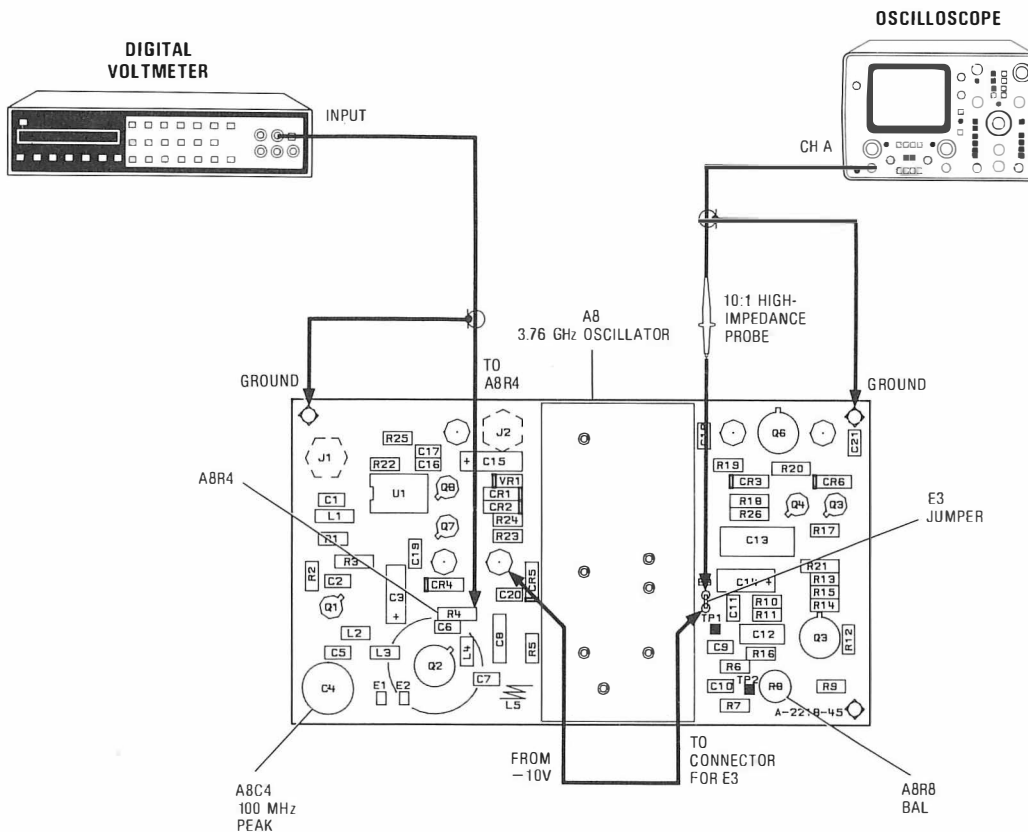

Figure 5-28. A8 3.7 GHz Oscillator Test Setup
1. Connect DVM to A8R4 as shown in Figure 5-28.
4. Remove jumper A8E3. Connect a jumper from the -10 Volt terminal to the lower connection point for E3 as shown in Figure 5-28. (This applies -10 Volts to the Oscillator.)
5. Connect the Oscilloscope 10:1 high-impedanced probe to the upper connection point for E3 as shown in Figure 5-28.